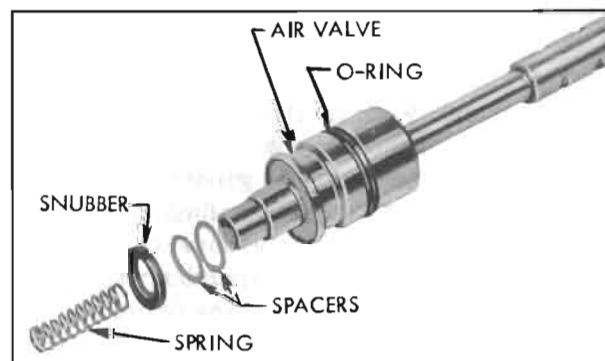

Figure 9-27—Air Valve and Related Parts
17. If pin is flush with body or sticks out no more than .010 inch, spacers are correct. If pin is high or low, add or remove spacers respectively until within limits. When spacers are correct, pull out gauge and set spacers and snubber (rubber face out) on air valve. Then set air valve return spring in end of air valve. Install new "O" ring in narrow groove of air valve and lubricate O.D. of air valve and "O" ring. See figure 9-27.